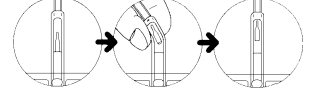

Figure 6
5. Break the break-off part at the opening of the bag by turning left and right. (Figure 6)
5. Break the break-off part at the opening of the bag by turning left and right (Figure 6)